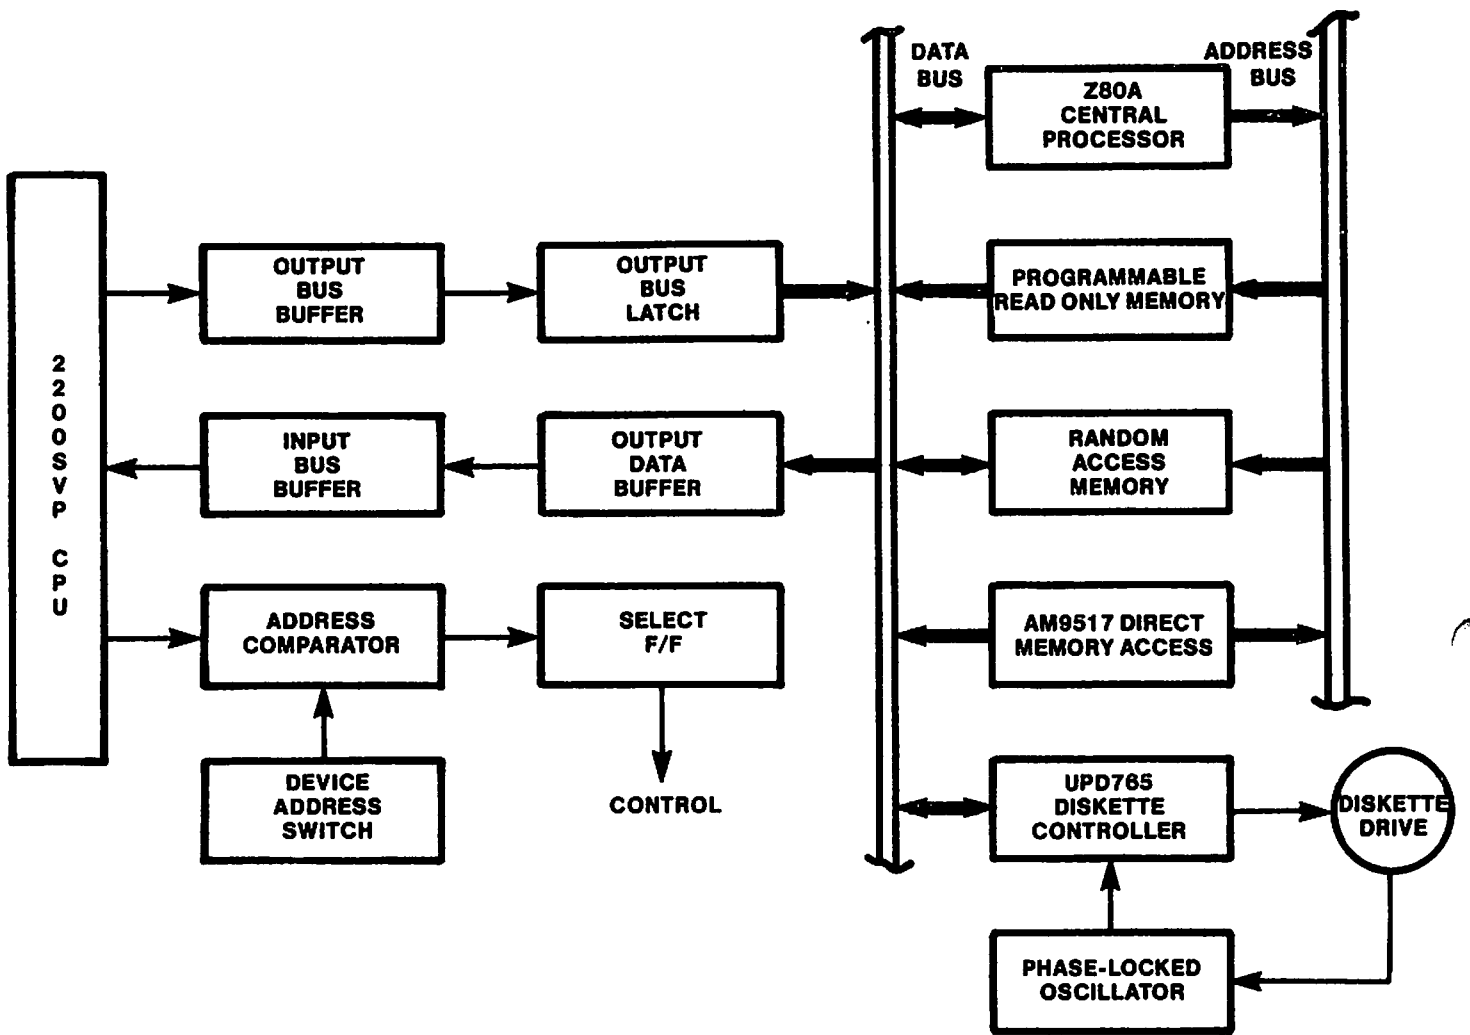

FIGURE 5-1 DUAL-DISKETTE PROCESSING UNIT BLOCK DIAGRAM
5.3 DUAL DISKETTE PROCESSING UNIT (ref: FIGURE 5-1 and 7890 schematic)